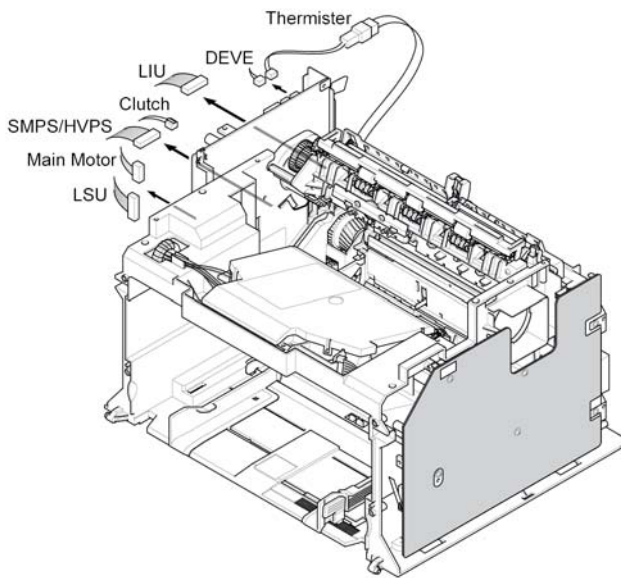

Figure 1
3. Unplug the all connectors from the main PBA, Figure 1.